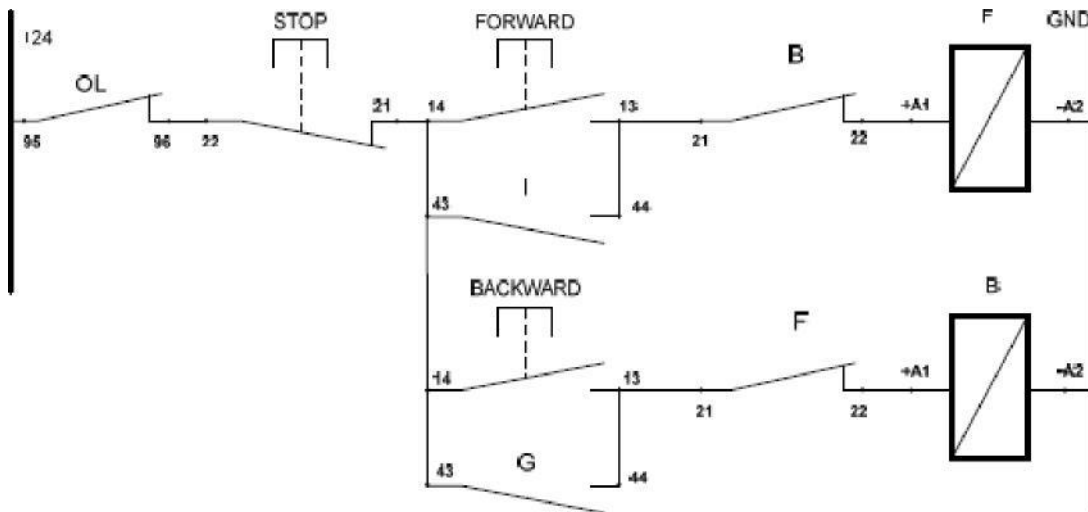
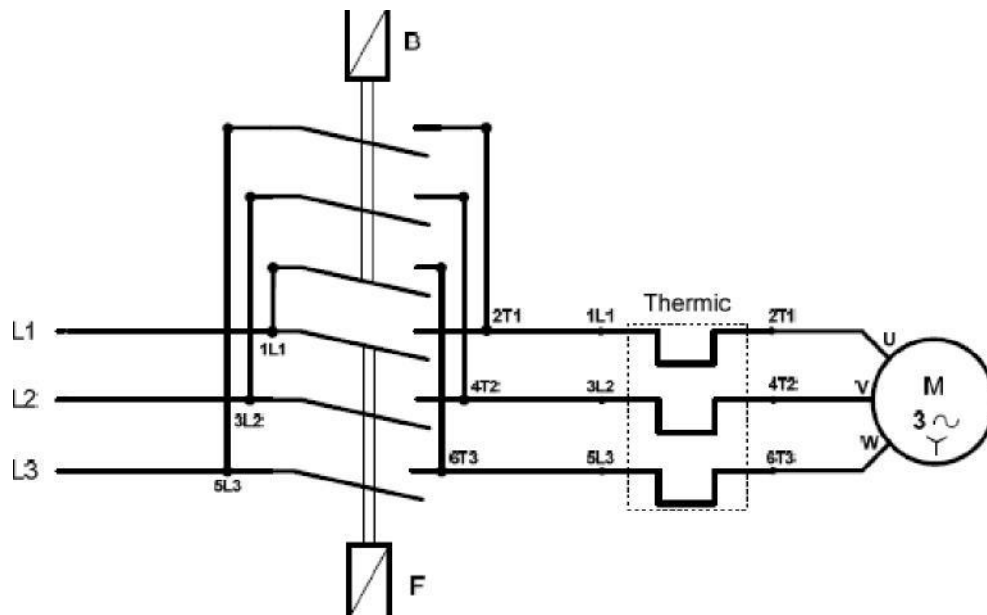

Figure 1: Controller circuit to change the rotation direction of asynchronous motor.
Figure 3: PLC connection to change the rotation direction of asynchronous motor.
1. Make the connections with 4 mm test cables according to controller circuit in the figure 1.
12. Undo the controller circuit in Figure 1 however leave power circuit as it is. In place of controller circuit, install the circuit again according to the PLC technology schema in figure 3.